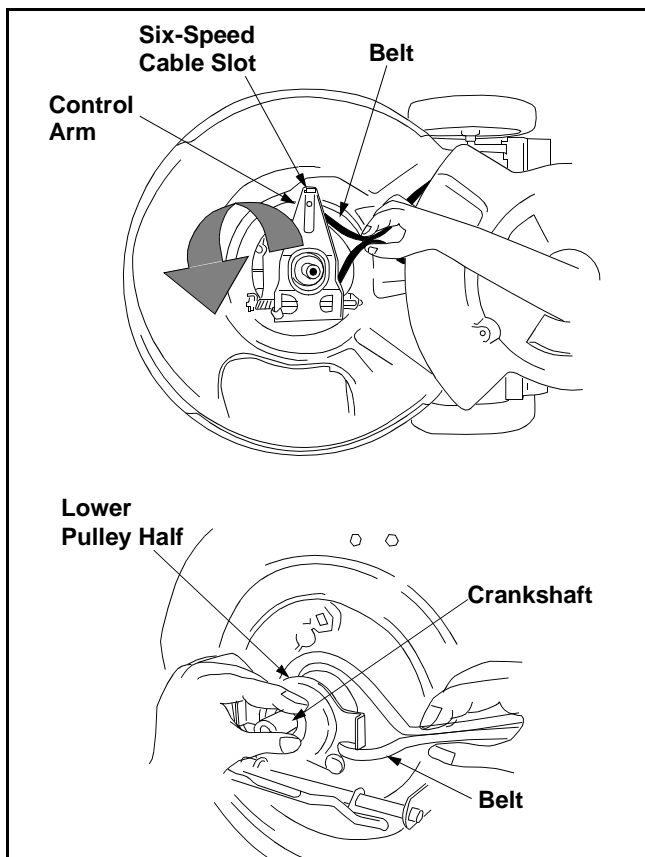

Figure 20
- Squeeze the belt together and push it forward, while pressing the control arm inward towards the deck and remove the six speed cable from the slot. See Figure 20.
- Lift off the lower pulley assembly and remove the old belt from around the crankshaft. See Figure 20.
- Place the new belt over the transmission pulley. Start the belt in the pulley groove and rotate the pulley until the belt is seated in the transmission pulley. Refer to Figure 20.